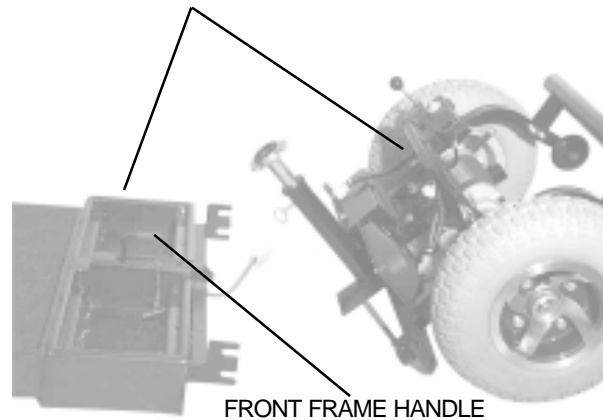

Figure 16. Front And Rear Sections
12. With one hand on the seat pedestal and one hand on the front frame handle, gently slide the front and rear sections apart. See figure 16.
2. Position the front and rear sections of your Victory XL as shown in figure 16.